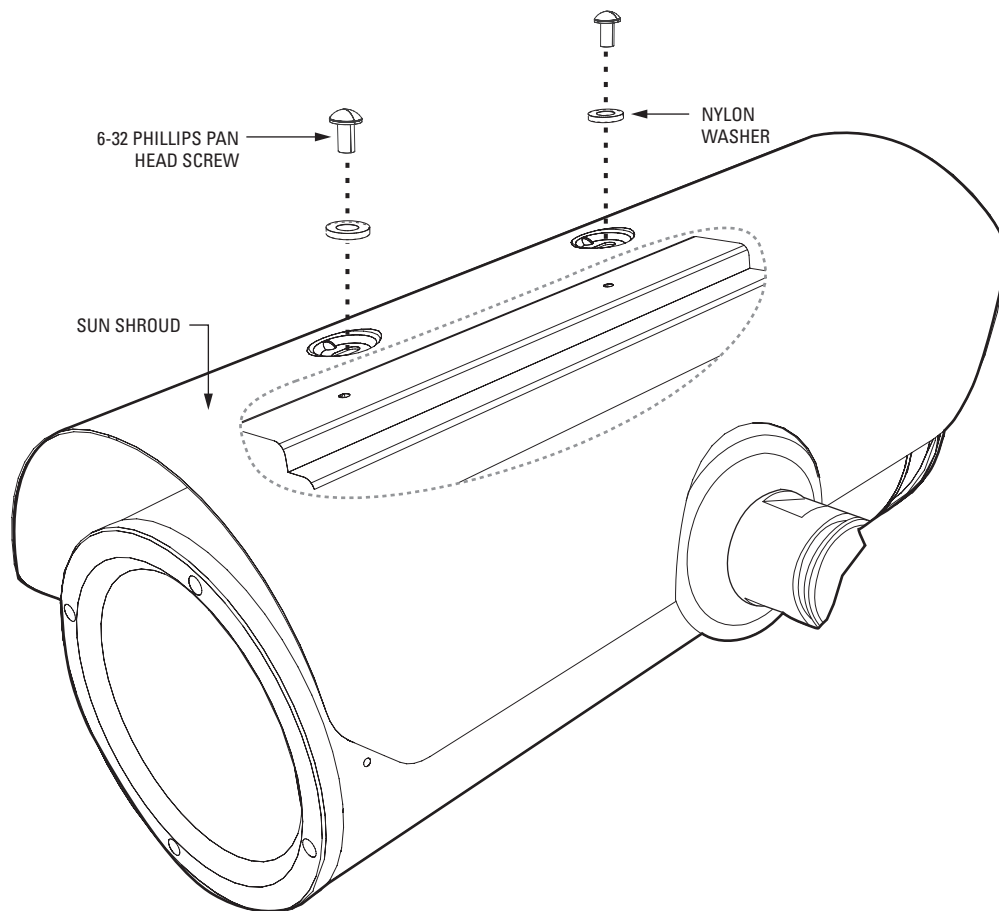

Figure 12. Install the Sun Shroud
1. Place the supplied nylon washers on the 6-32 Phillips pan head screws. Refer to Figure 12.